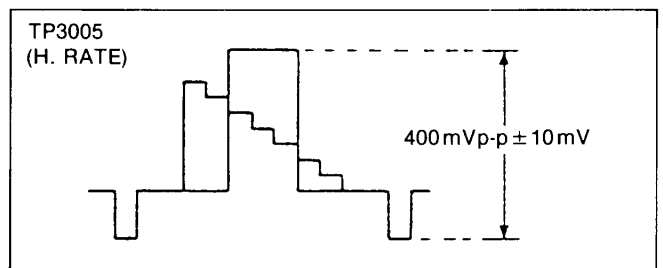

Figure E23
4. Adjust VR3001 for 400 +/-10mVp-p as shown in Figure E23.